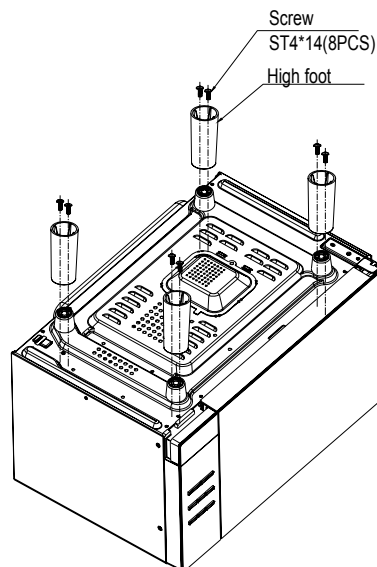
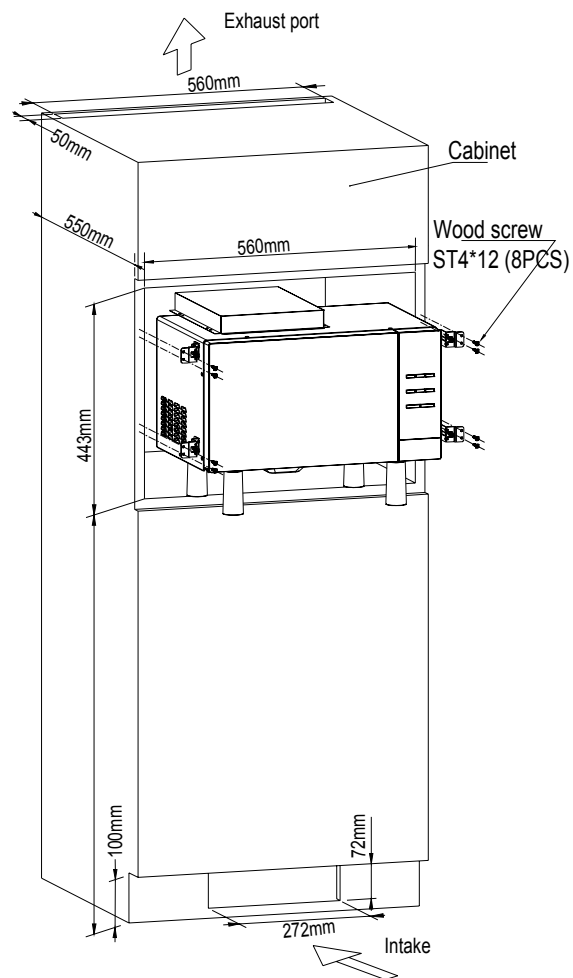

Fig 1
Fig. 4
a) Intake and exhaust port position, as shown in Fig.4.
b) Net depth $\geq 550\text{mm}$, as shown in Fig.4.
② INSTALLATION:
a) Install the high feet with self-lock screws, as shown in Fig.1
d) Place microwave oven into cabinet, and then fix it with wood screws, as shown in Fig.4